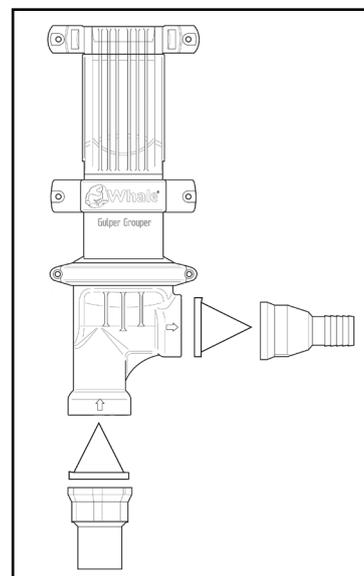

Figure 3 - Valve Orientation
**NOTE:** The inlet valve must point with the triangular part pointed into the pump and the outlet valve with the triangular part pointing towards the hose. (Fig 3)